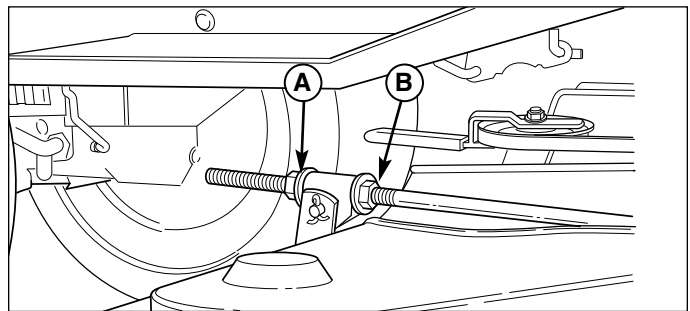

Figure 52. Front to Back Leveling
8. To raise front of mower deck, loosen front nut (B) and turn rear nut (A, Figure 52) against bracket. To lower front of mower deck, loosen rear nut (A) and the bracket will move backwards to lengthen rod.
9. Re-check the blade measurement then tighten the front nut (B) against the bracket to secure.